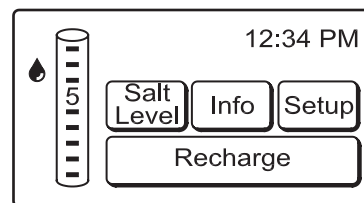

FIG. 33
1. Press the RECHARGE button on the softener status screen (See Figure 33).